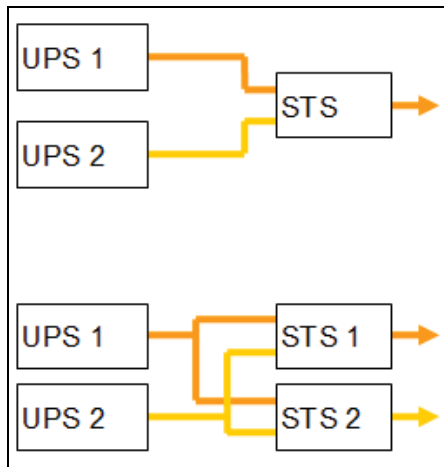

Figure 170. Static Transfer Switch
- **Static transfer switch for two components:** For STS mode, there are several cases with single STS or multiple STSs (see Figure 170).